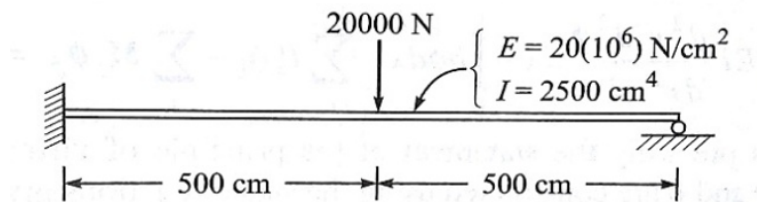

Figure 4
- (b) A beam fixed at one end and supported by a roller at the other end, has a 20kN concentrated load applied at the center of the span as shown in Figure 4. Calculate the deflection under the load. [7M]